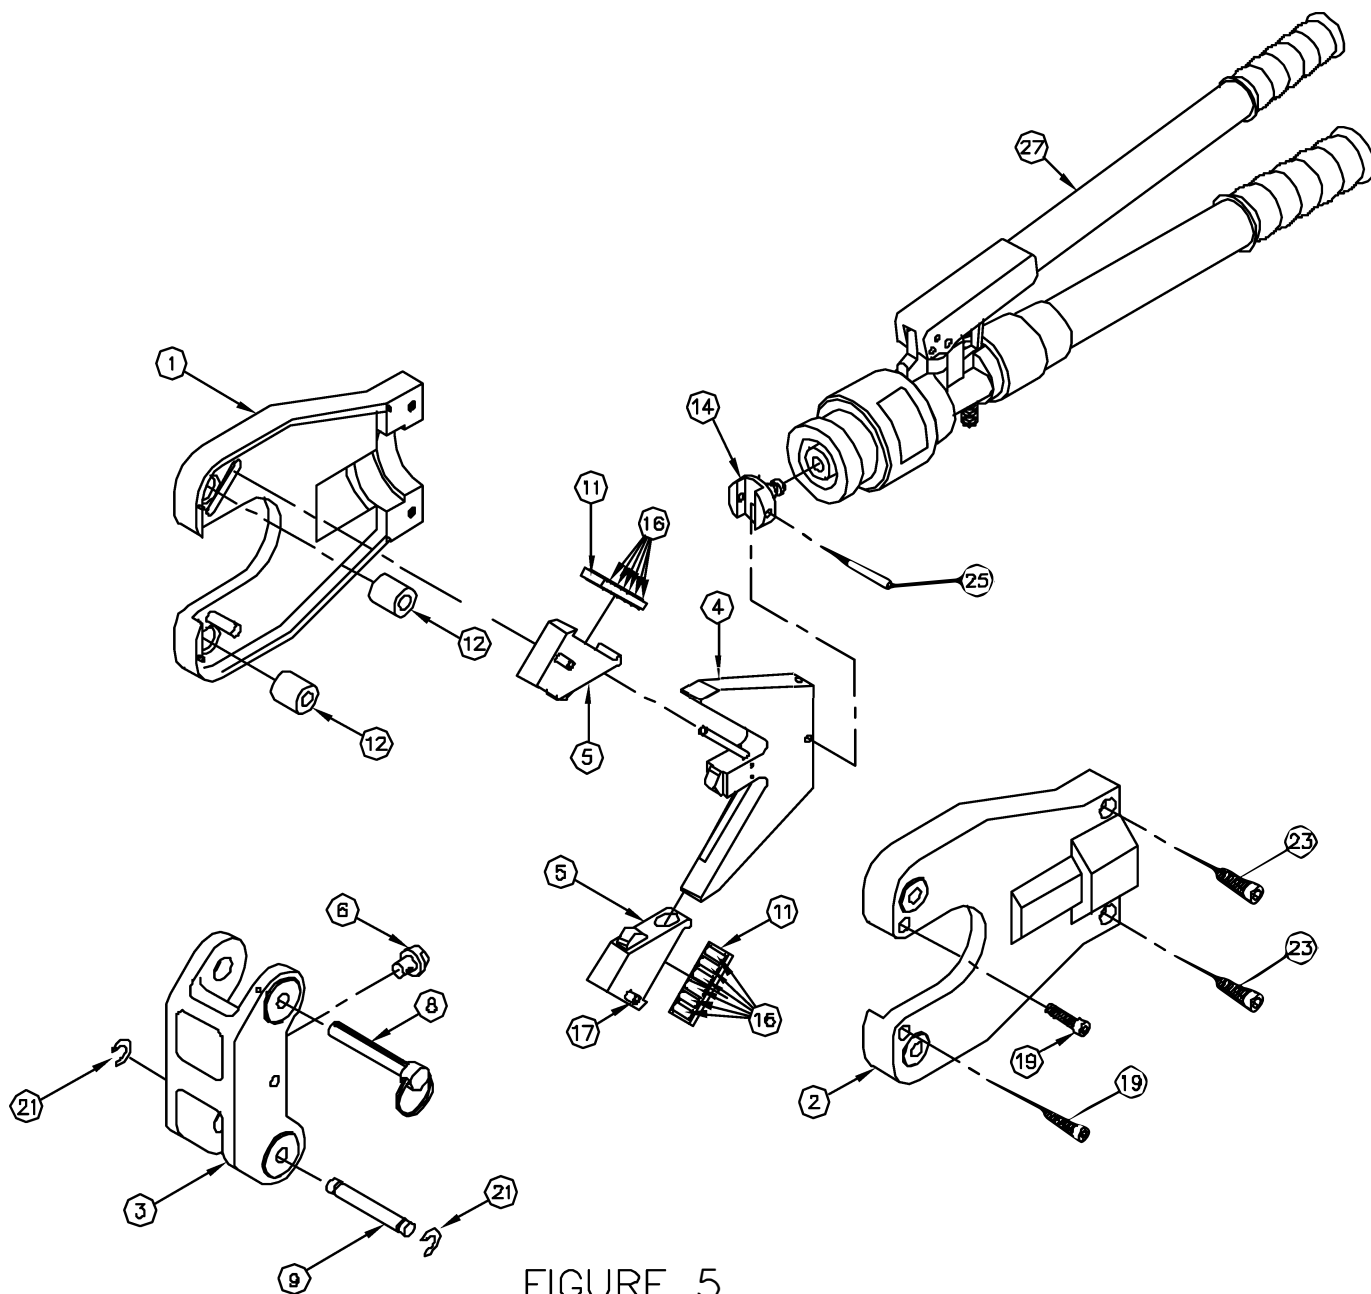
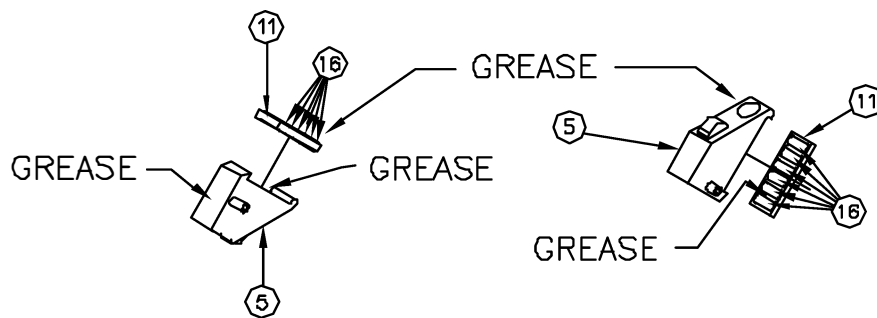

FIGURE 5
FIGURE 6
1. Disassemble the tool head (see TOOL HEAD DISASSEMBLY steps 1 through 6) and clean parts thoroughly by washing in an environmentally approved solvent. Wipe parts clean and apply a coating of grease (see LUBRICATION RECOMMENDATIONS) to the bearing and pin surfaces of Slide 4 (see Figure 5) and the bearing surfaces of each indenter (see Figure 6).
2. Rotate and depress the pump release handle to fully retract the indenters (see Figure 5).
6. Carefully remove items 12, 5, 11 and 16. Care should be taken to ensure that the roller bearings in case 11 do not drop out and get lost.
NOTE: Be sure that the 1/4" cap screws, item 23, holding the covers to the cylinder, should be tightened snugly to the extent that the tool head can still rotate (see Figure 5).